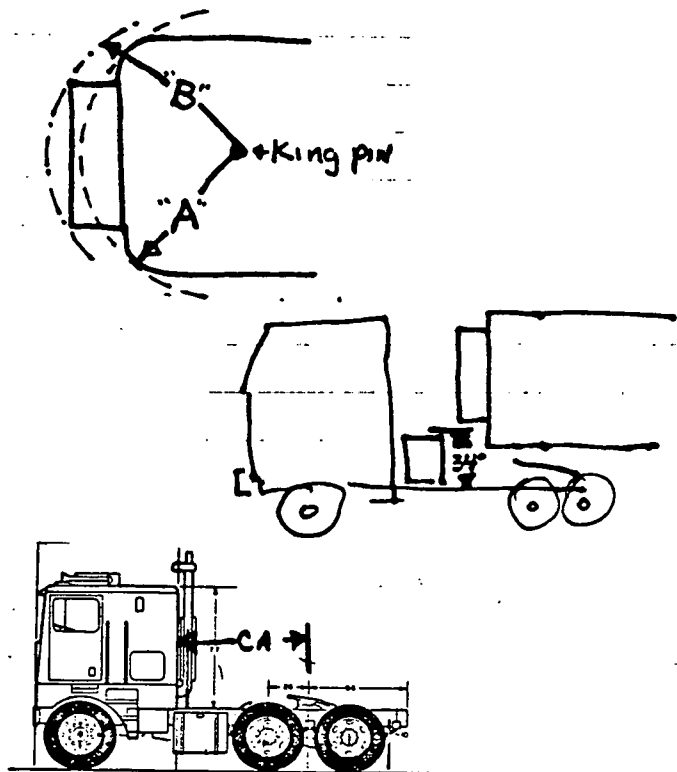

FIGURE 10.. Measuring Distance "C"
1. Identify the distance from king pin to corner dimension "A" as shown in Figure 10 or
2. Identify the distance from king pin to corner dimension "B", which includes allowance for a refrigeration unit (Refer), if dimension "B" is greater than dimension "A" as long as the height of the generator set (31-3/8 inches) does NOT interfere with the refer as shown in Figure 10.
If the movable type 5th wheel can be adjusted to a distance that is **LESS** than dimension "C", we suggest that forward travel of the fifth-wheel be restricted to prevent trailer from accidentally interfering with the generator set in a turn. See Figure 10 and calculate dimension "C" **PRIOR** to proceeding with any Over-the-Rails installation.